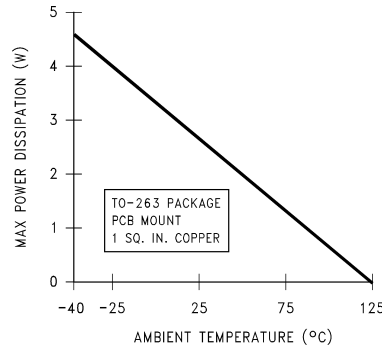

Figure 21. Maximum power dissipation vs ambient temperature for TO-263 package
**Figure 21** shows the maximum allowable power dissipation for TO-263 packages for different ambient temperatures, assuming  $\theta_{JA}$  is 35°C/W and the maximum junction temperature is 125°C.